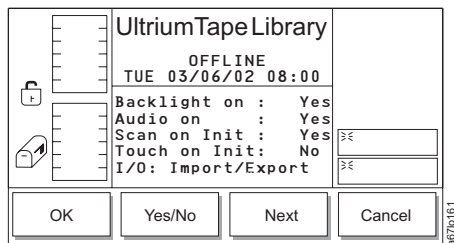

Figure 4-114. Config Dialog
3. Press the button below the **Config** softkey. The Config Dialog displays (see Figure 4-114) with the following information: